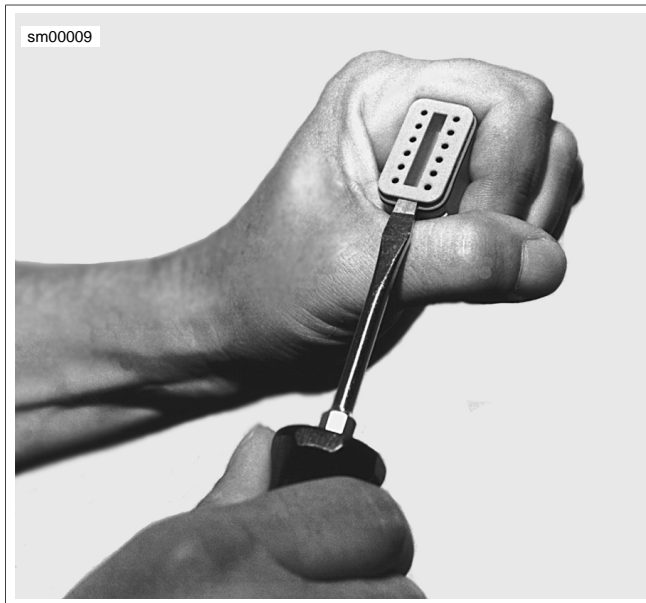

Figure A-16. Deutsch Connector: Remove Secondary Locking Wedge
- See Figure A-16. Insert a small screwdriver between the socket housing and locking wedge in-line with the groove (in-line with the pin holes if the groove is absent). Turn the screwdriver 90 degrees to pop the wedge up and remove the secondary locking wedge.